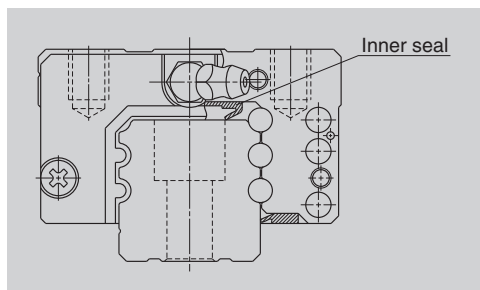

Fig. 6.6 Inner seal when installed
- The end seal installed on both ends of the slide cannot arrest entire foreign matters, though the missed amount is negligible. An inner seal protects the rolling contact surface from such foreign matters which entered inside the slide (Fig. 6.6).